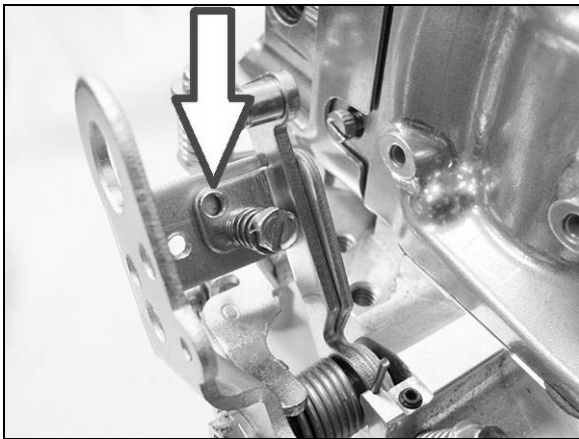

Figure 5
1. Unlock transmission kickdown lever by removing screw and spring and relocating to additional hole in the transmission kickdown lever (**Figure 5**).